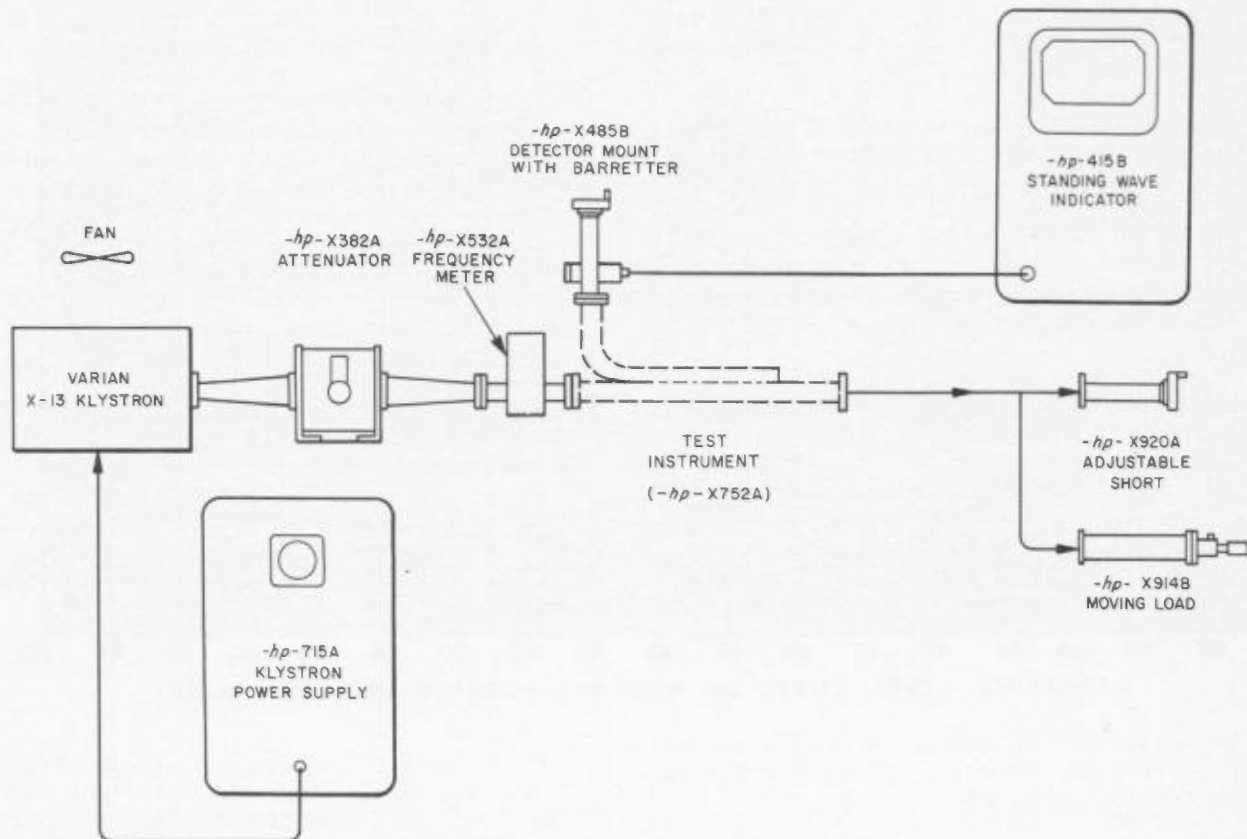

Figure 2-2. X752A Directional Coupler Directivity Calibration
1) To check the directivity of the X752A, connect the equipment as shown in Figure 2-2. Place the X920A Short on the end of the X752A.